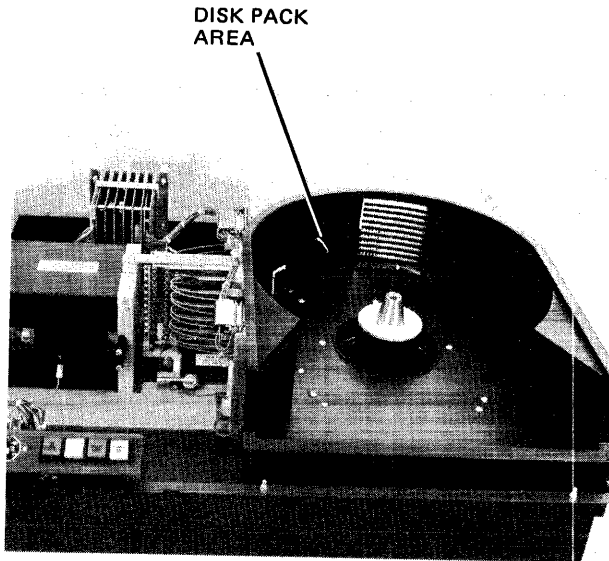

Figure 4-4. Disk Pack Area
- a. Wipe inside of air shroud with lint-free cloth dampened with alcohol. Ensure that residue is removed (see Figure 4-4).